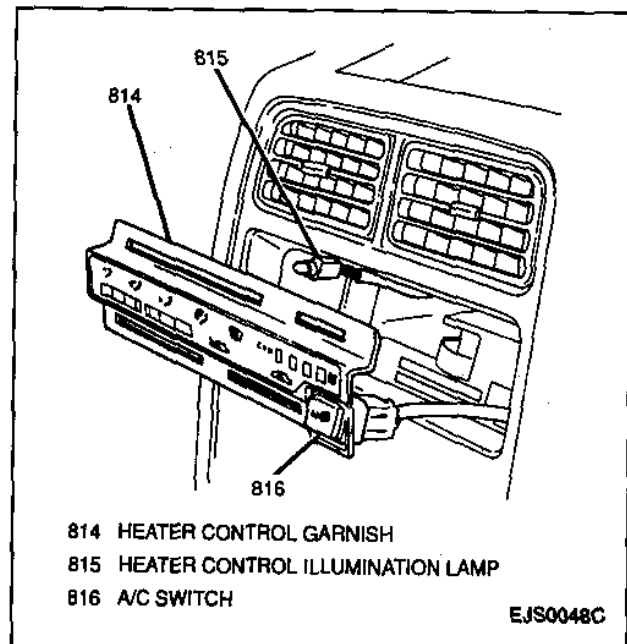

Figure 18—Heater Control Unit Illumination Lamp and A/C Switch
4. Heater control unit illumination lamp socket from face plate (Figure 18).